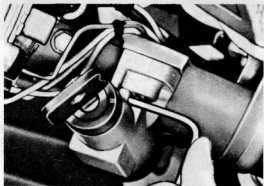

Fig. 10.28. Pressing in the lock cylinder retaining pin (Sec. 25)
- 2 Turn the ignition key to the '1' position and remove the lock cylinder by pressing in the retainer button using a piece of wire inserted in the hole shown in Fig. 10.28.